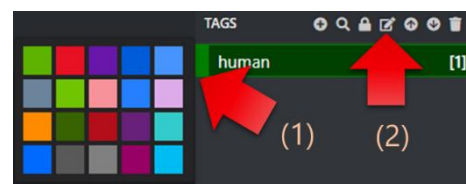

Fig.4.10 Changing the color of tags
- As shown in Fig. 4.10, the color of the tag can be changed arbitrarily by clicking the part of the color bar to the left of the tag name and clicking the pen mark at the top. Tag color does not affect detection results.